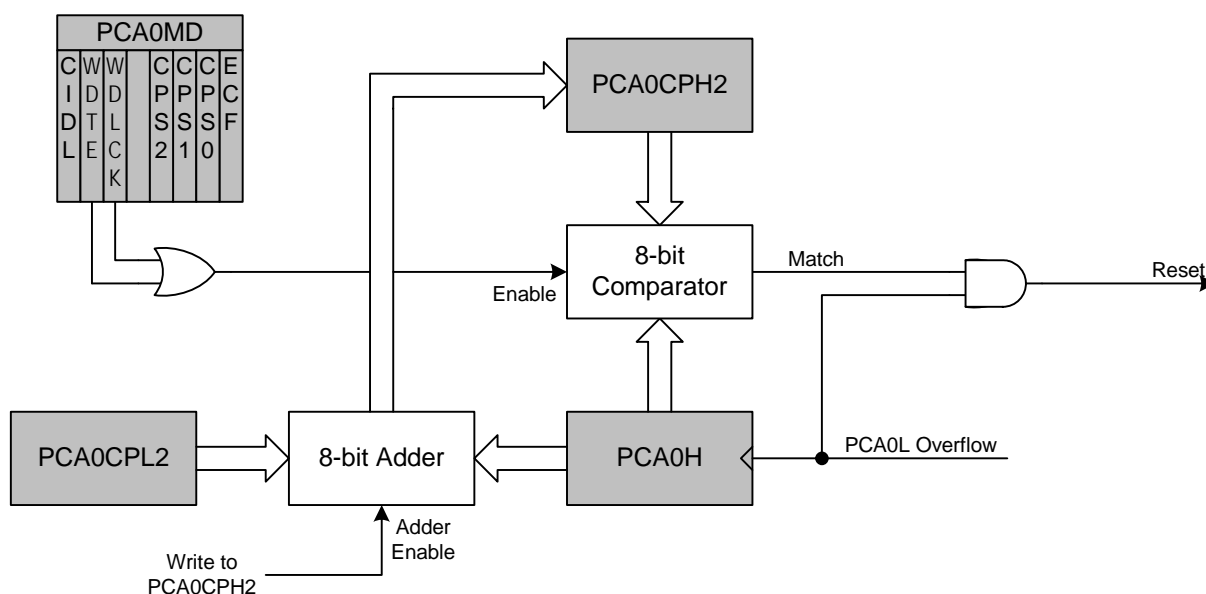

Figure 24.10. PCA Module 5 with Watchdog Timer Enabled
While the WDT is enabled, writes to the CR bit will not change the PCA counter state; the counter will run until the WDT is disabled. The PCA counter run control (CR) will read zero if the WDT is enabled but user software has not enabled the PCA counter. If a match occurs between PCA0CPH2 and PCA0H while the WDT is enabled, a reset will be generated. To prevent a WDT reset, the WDT may be updated with a write of any value to PCA0CPH2. Upon a PCA0CPH2 write, PCA0H plus the offset held in PCA0CPL2 is loaded into PCA0CPH2 (See Figure 24.10).